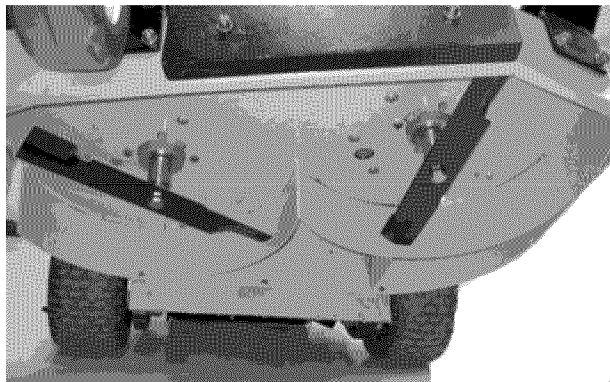

Figure 18
7. The idler pulleys should be adjusted so that when the blade clutch is engaged, a ten-pound pull between two pulleys deflects either belt about 1/2" (See Figure 18.) Do not overtighten these belts. The blade clutch should engage with only moderate force.